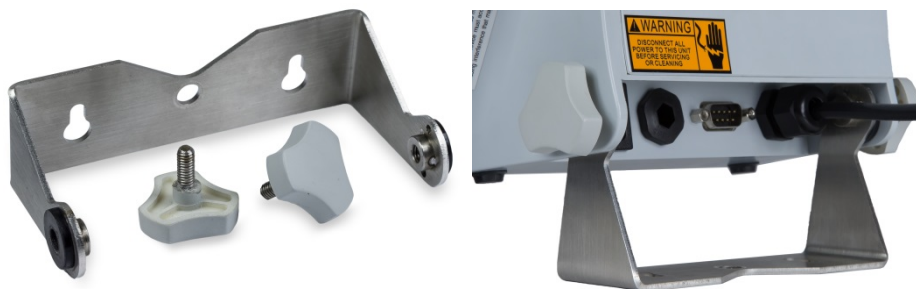

Figure 2-5: Bracket and Tightening Knobs
1. Use two bracket hand knobs to attach the brackets to the bottom of the terminal, as shown in Figure 2-5.